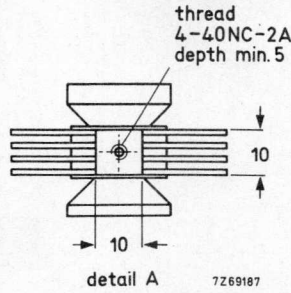

Fig. 4.
- (1) Inscription of serial number.
- (2) The axis of the common heater-cathode terminal is within a radius of 1,5 mm from the centre of the mounting plate. The eccentricity of the axis of the inner cylinder of the heater terminal with respect to the axis of the inner cylinder of the common heater-cathode terminal is max. 0,125 mm.
- (3) Centre of waveguide.
- (4) Plate for mounting a thermoswitch, see detail Fig. 4.
$$V_f = 14,8 \left(1 - \frac{I_a}{41,5} \right) V \quad (\text{see also Fig. 4})$$